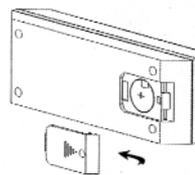

Figure 3
3. Press the battery into the battery pocket. (Fig.3)